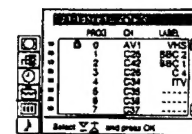

Fig. 24
- 3 Select "Parental Lock" with Δ+ or ∇- and press OK. The PARENTAL LOCK menu appears. (See Fig. 24.)